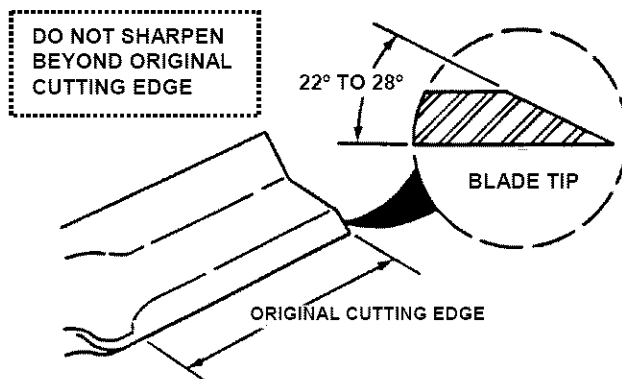

FIGURE 4.17
7. If blade is in good condition, sharpen at 22 to 28 degrees. DO NOT sharpen beyond existing cutting edge. See Figure 4.17.
DO NOT attempt any adjustments, maintenance, service or repairs with the engine running. Stop engine. Stop blade. Engage parking brake. Remove key. Remove spark plug wire from spark plug and secure away from plug. Engine and components are HOT. Avoid serious burns, allow all parts to cool before working on machine. Fuel Filler Cap and Vent must be closed securely to prevent fuel spillage. DO NOT attempt to service or charge the battery while it is installed on the YARD CRUISER. Shield the positive terminal with terminal cover located on battery harness. This prevents metal from touching the positive terminal, which could cause sparks. Cables must be connected to battery terminals in the proper position as shown in Figure 4.17.
1. Remove blade(s). See Figure 4.17. Replace blade(s) if it shows signs of excessive wear or damage. See chart below for replacement